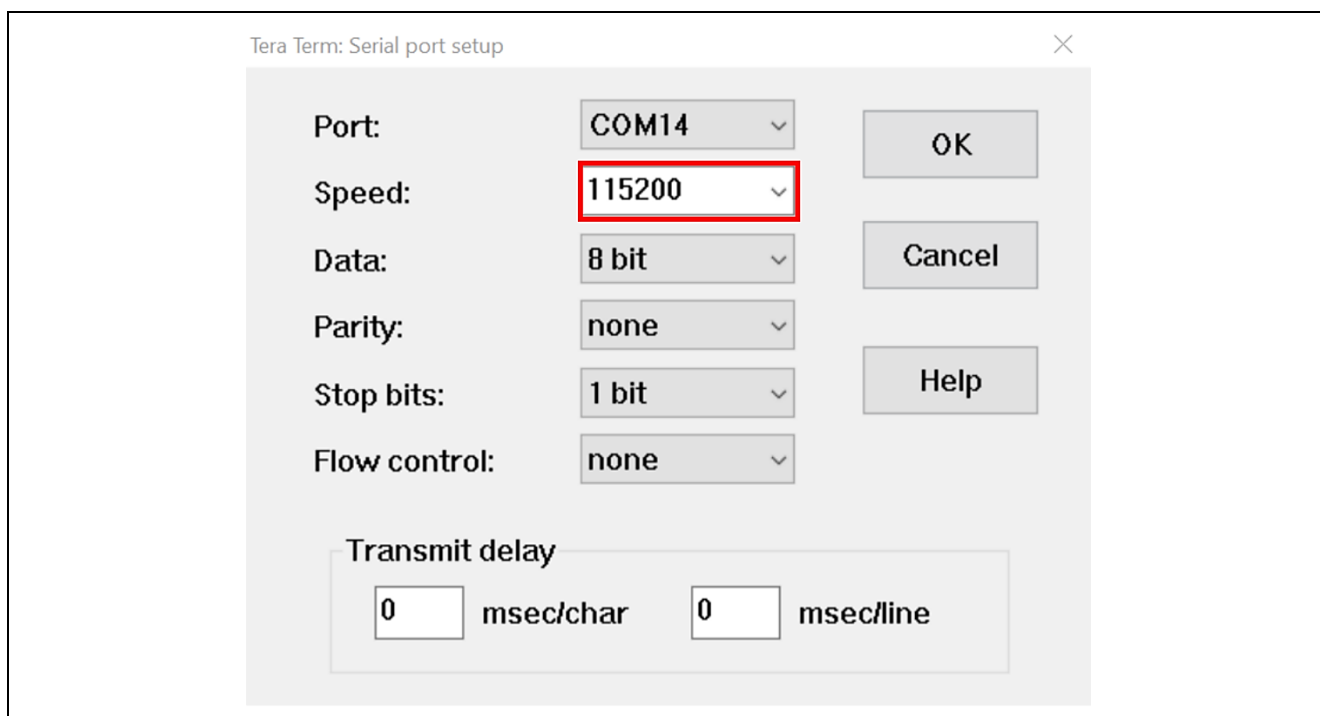

Figure 12. Select 115200 on the Speed Pulldown
- Using the **Setup** menu pull-down, select **Serial port...** and ensure that the speed is set to 115200, as shown in **Figure 12**.